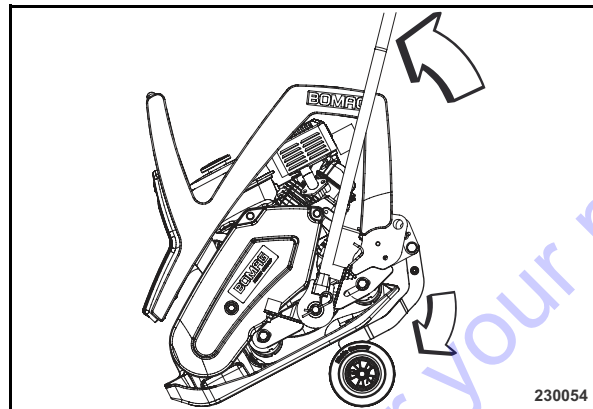

Fig. 39
- Push the vibratory plate up by the guide handle (Fig. 39) and fold the transport wheels under the base plate.